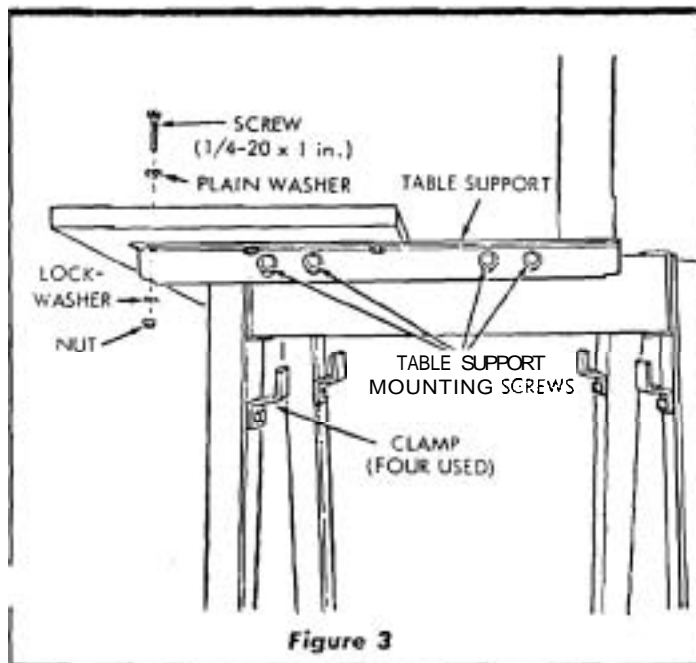

Figure 3
1. Place the large front table board on table supports so that holes in board match holes in supports. (See figure 3.)
- Recheck... and, if correct, tighten all table hold-down screws. (See figure 3.)
2. Loosen table support mounting screws (figure 3) at both left and right sides of the base. Re-tighten to finger tightness for adjustment of table.
5. Move the blade to the left-rear of table at point C and tap table up or down as required. (See figure 11.) Then move blade to point D and adjust table as required. Tighten screws in **left-hand** table support angle when height is correct. (See figure 3.)
7. Move the saw blade to all six positions to recheck for proper leveling of table. (See figures 9, 10 and 11.) Make slight corrections if required, and make sure all support mounting screws are tight. (See figure 3.)